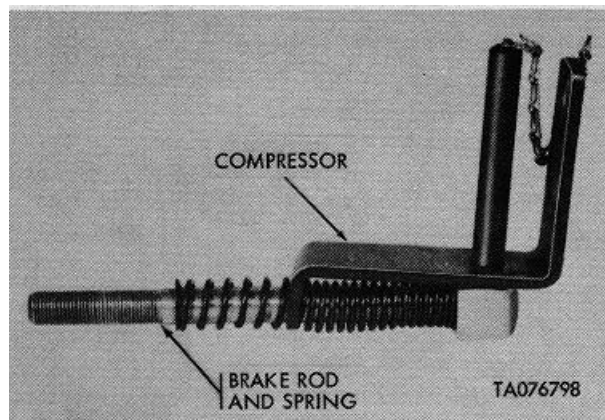

Figure 4-21. Brake Band - Springs Installation Using Compressor
- (r) Install spring (22), washer (21), and packing (20) on the two brake band adjusting bolts, using compressor, special tool (2, fig. 1-2) to compress spring. Refer to figure 4-21. Insert brake band adjusting bolts into holes at front of differential housing and mount locking plate (48) and two adjusting nuts (49) on adjusting bolts. Tighten adjusting nuts (49) until brake band is snug against drum. Screw four brake band backup bolts (47) into housing until they touch brake bands, then back off the bolts one turn and set jam nuts (46). Loosen adjusting nuts (49) until drums turn freely.